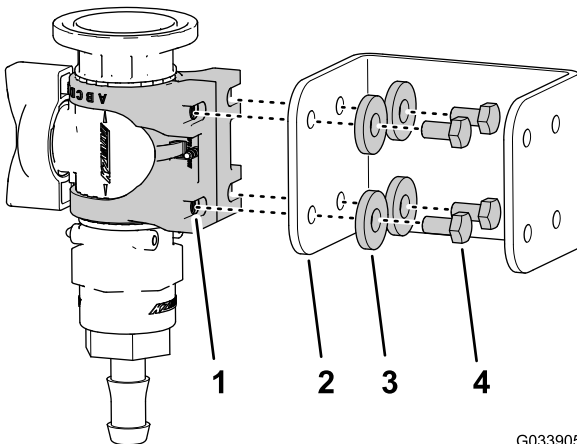

Figure 12
3. Assemble the valve mount to the control-valve bracket (Figure 12) with the 4 bolts (6 x 12 mm) and 4 flat washers; torque the bolts to 10 to 12 N·m (86 to 106 in-lb).